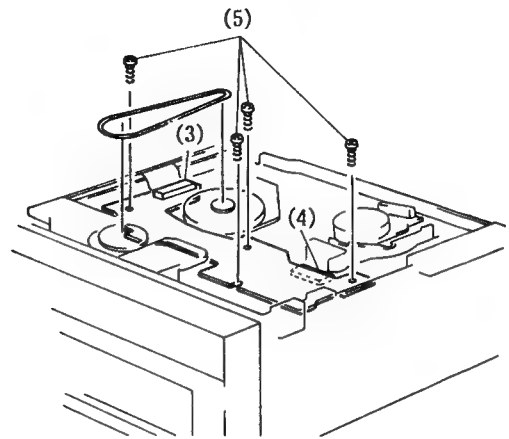

Fig. 4-14 Sensor Circuit Board
10. Sensor Circuit Board (Fig. 4-14)